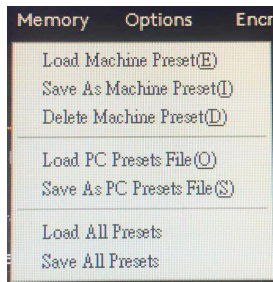

Figure 3.4.1
As shown in Figure 3.4.1 DA-4860DSP software of the scene in three major types of actions: the machine stored scene data, computer data stored scene and the whole scene data manipulation.
Step1: Click on the main interface to the top menu " Memory " button will pop up all the scenes action item (see Figure 3.4.1).
step1: Click on the main interface to the top menu " Memory " button will pop up all the scenes action item (see Figure 3.4.1).
step 1: Click on the main interface to the top menu " Memory " button will pop up all the scenes action item (see Figure 3.4.1).
step1: Click on the main interface to the top menu "Memory" button will pop up all the scenes action item (see Figure 3.4.1)